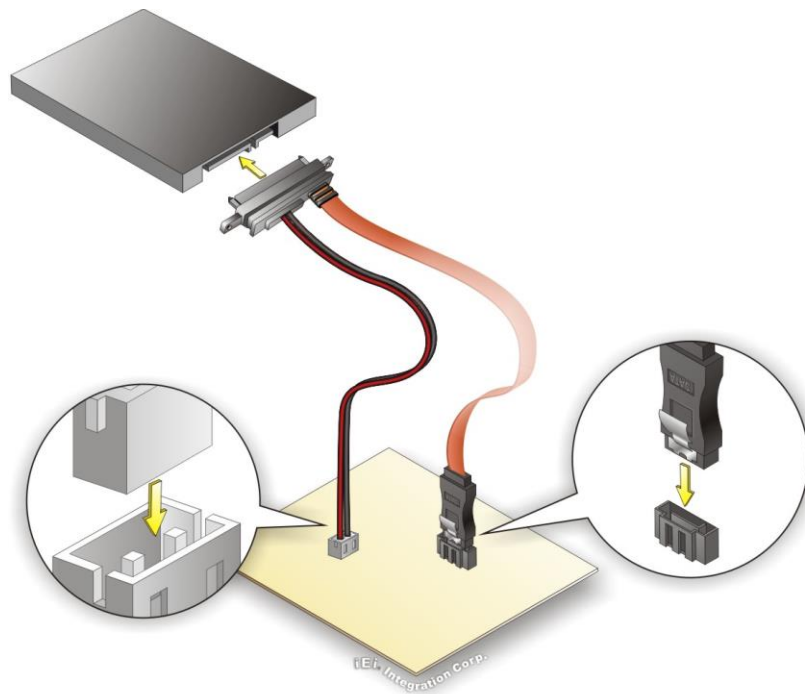

Figure 4-20: SATA Drive Cable Connection
- Step 2:** **Insert the cable connector.** Insert the cable connector into the on-board SATA drive connector and the SATA power connector. See **Figure 4-20**.